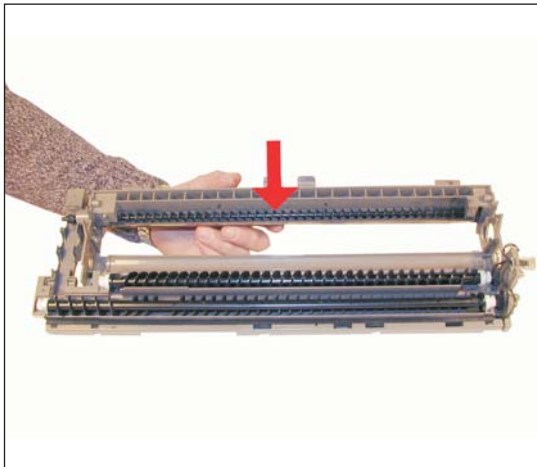

Figure 33
24) Clean out the auger area. Make sure that the auger stays in its slot. The gear on the opposite side of the shaft can be lost if it comes loose. See Figure 33